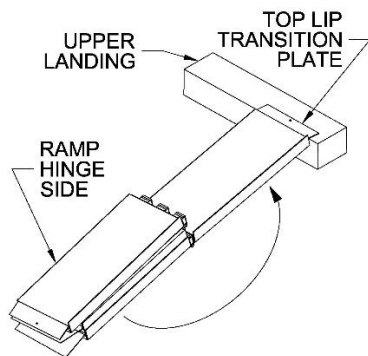

FIG. 1
2. Unfold the first top half of the ramp (labeled TOP) toward the upper landing and place the ramp so that the top lip transition plate fully overlaps the landing and is securely supporting the ramp (FIG. 1).